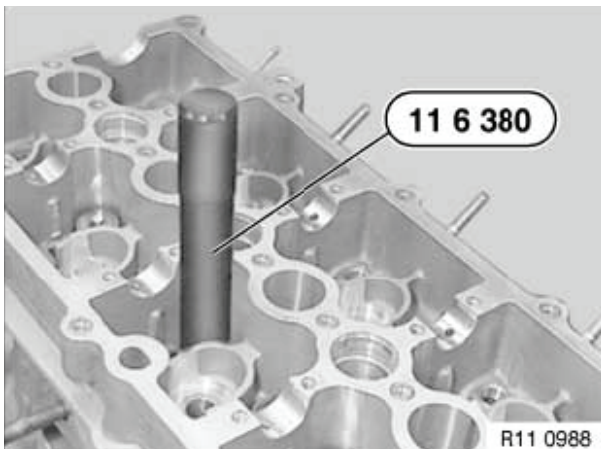

Figure 5-30
6. Press valve stem seal into place with special tool OEM No. 11 6 380 until it is seated (**Figure 5-30**).